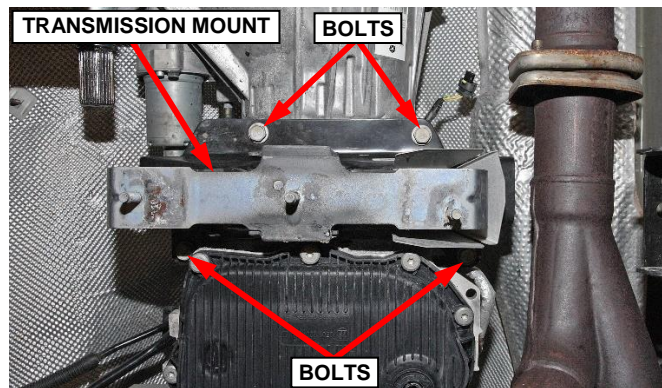

Figure 19 – Transmission Mount
24. Remove and **SAVE** the four bolts then remove and **SAVE** the transmission mount (Figure 19).
7. Install the transmission mount and the four bolts then tighten the bolts to 64 N·m (47 ft. lbs.) (Figure 19).